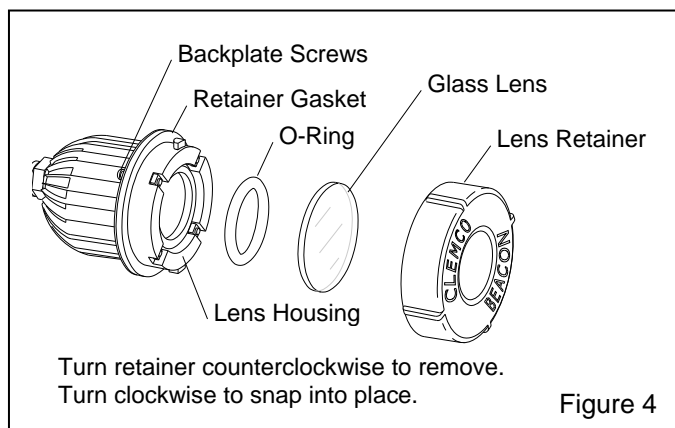

Figure 4
5.1 Cleaning and Replacing the Outer Protective Glass Lens, refer to Figure 4